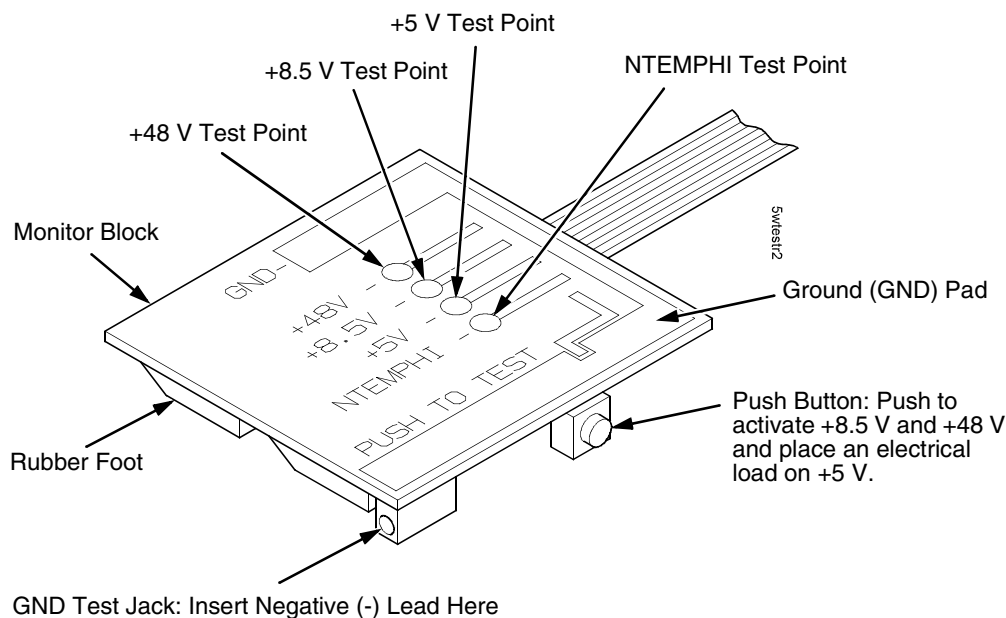

Figure 22. Testing the Power Supply
8. Insert the negative (-) lead of the voltmeter into the ground (GND) test jack on the Monitor Block. If the negative lead does not fit into the GND test jack, touch the negative lead to the ground (GND) pad. (Figure 22.)
10. Touch the positive (+) lead of the voltmeter to the +5 V test point on the Monitor Block. The voltage should be 4.85 to 5.15 volts. (Figure 22.)
11. Measure the voltage at the NTEMPHI test point; it should be greater than 2.4 volts. (Figure 22.)
12. Measure the voltage at the +48 V test point; it should be less than 0.2 volts. (Figure 22.)
13. Measure the voltage at the +8.5 V test point; it should be less than 0.2 volts. (Figure 22.)
14. Press and HOLD IN the Push Button on the Monitor Block. (Figure 22.)